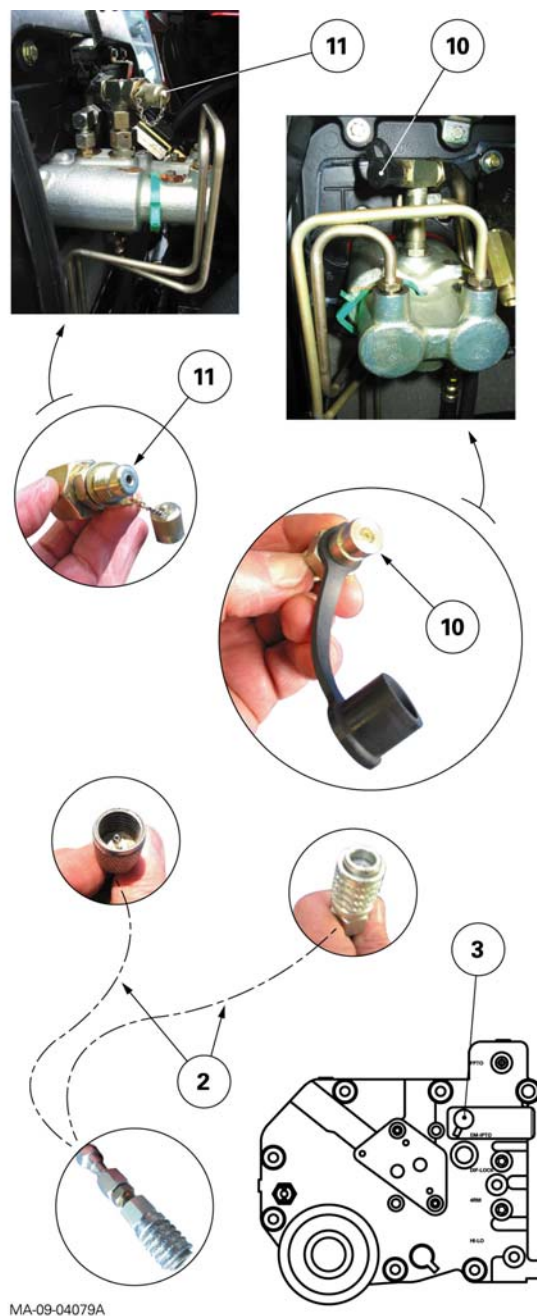

Fig. 14
A male connector (3) fitted as standard on the booster and lubricating line (5 bar) of the right-hand hydraulic cover (Fig. 14), must be used to facilitate the bleeding under pressure of the brake circuit.
Two types of bleed connector (10) and (11) can be present on the brake master cylinders (Fig. 14).
7. Locally make a hose (2) for couplers as follows:
- the other end must be fitted with a female connector suitable for attachment to the male connector (3) of the right-hand hydraulic connector (Fig. 14).
NOTE: Some hoses may be difficult to pinch shut due to their rigid sheath. Consequently, it is recommended to disconnect the hose from union (10) or (11) (Fig. 14) and temporarily screw a plug in its place.
- the connector and hose assembly (2) (Fig. 14);
- the pliers clamping the hose (1) (see remark at operation 10).